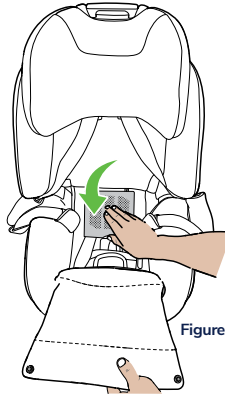

Figure 23
Step 3. Close and lock the compartment door (Figure 23).